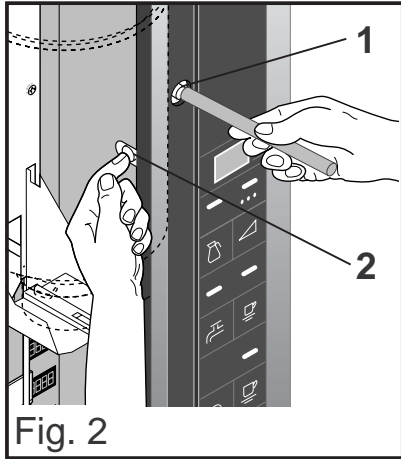
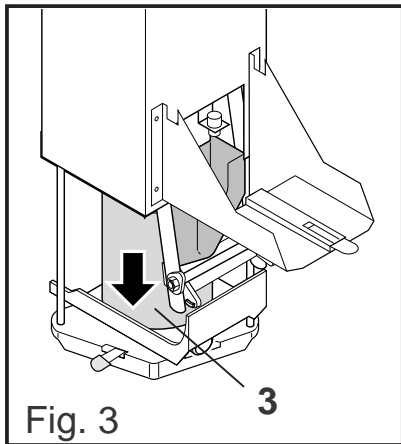

Fig. 2
Fig. 3
- Actuate the safety switch (1) with the special tool and simultaneously press the rinse button (2) (access through the opening in the right door). (Fig. 2) Keep the button pressed until the brewing cylinder (3) is fully closed. (Fig. 3)